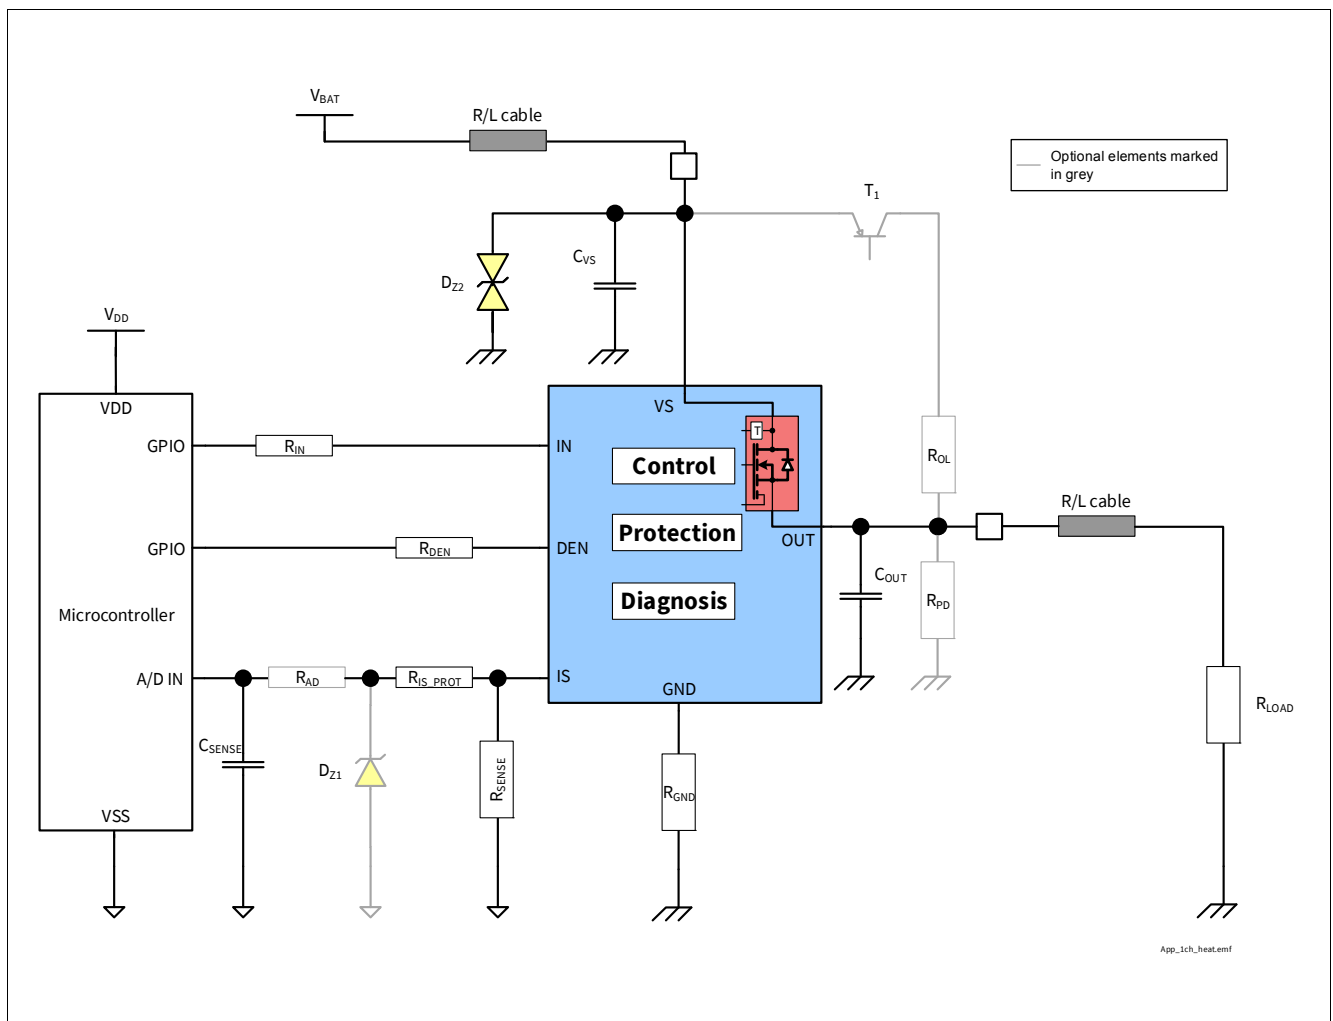

Figure 37 BTS7002-1EPP Application Diagram
1.01, 2018-06-14	<p>Page numbering corrected Figure 29 updated Figure 1 updated Figure 37 updated</p>